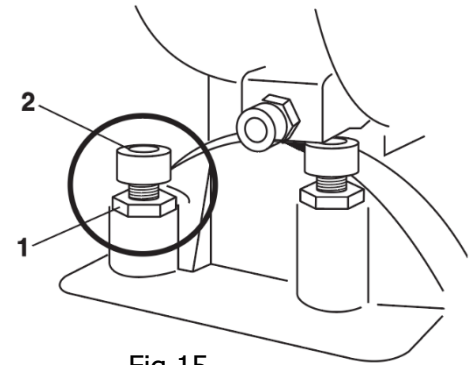

Fig.15
- 2 . Loosen the bevel stop locknut 1 (Figure 15)